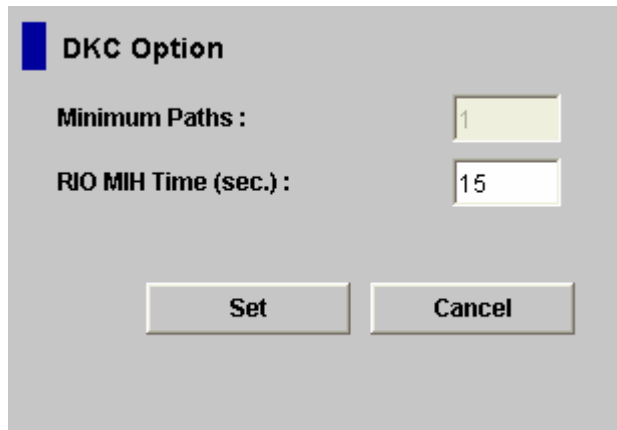

Figure 5-4 DKC Option Window
For detailed information about the options, see the next section and read explanations below Figure 5-4.
The DKC Option window (see Figure 5-4) allows you to set the logical path options and storage system options. These options will apply to the local storage system and the corresponding remote storage system.
The DKC Option window appears (Figure 5-4).
7. On the DKC Option window, change the options as desired. For detailed information about the options, refer to explanations below Figure 5-4.